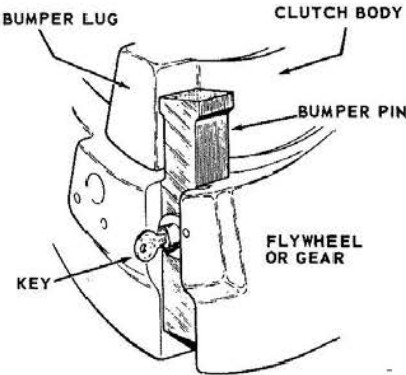

Figure 2
3. Remove Cover Over Clutch Guard Utility Opening. (For Figure 2 only.)